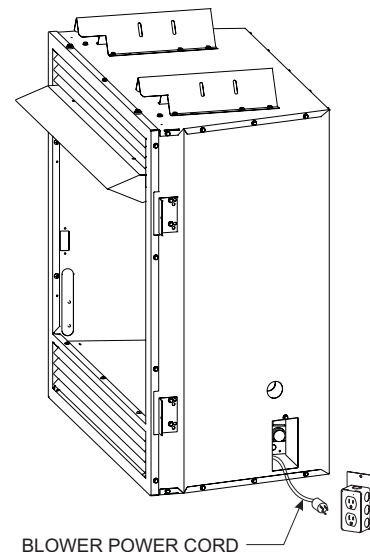

Figure 24
11. To complete the installation, plug the power cord into the junction box receptacle at the right rear corner of the firebox outer wrap. **See Figure 24.**